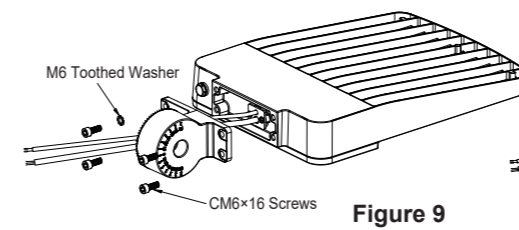

Figure 9
1. Feed Luminaire cord through SP upper bracket and secure the bracket to the Luminaire with 4pcs CM6x16 screws and 1pc M6 toothed washer, Figure 9.